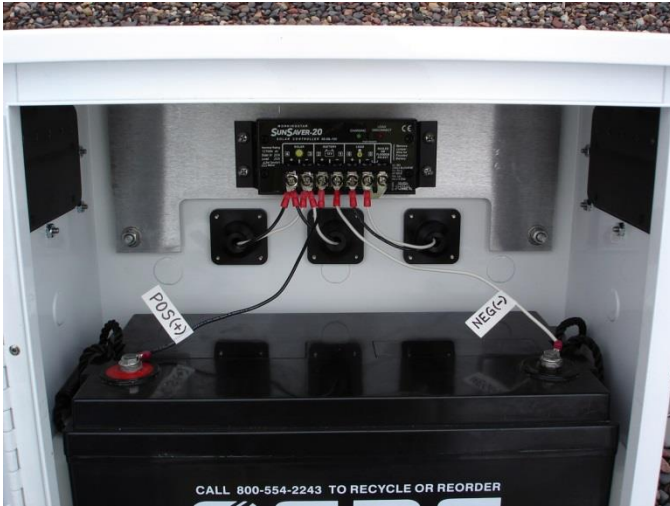

Figure 30: Install the Solar Battery and Connect to Controller
1. Remove the Solar Battery from its packaging and place it in the Solar Battery Enclosure box. Make sure that the battery positive (+) terminal is on the left (the positive terminal is noted on the battery with a RED marking). Remove the battery terminals using an adjustable wrench and connect the ring terminal ended wires from the solar charge controller to the battery terminals (see Figure 30).